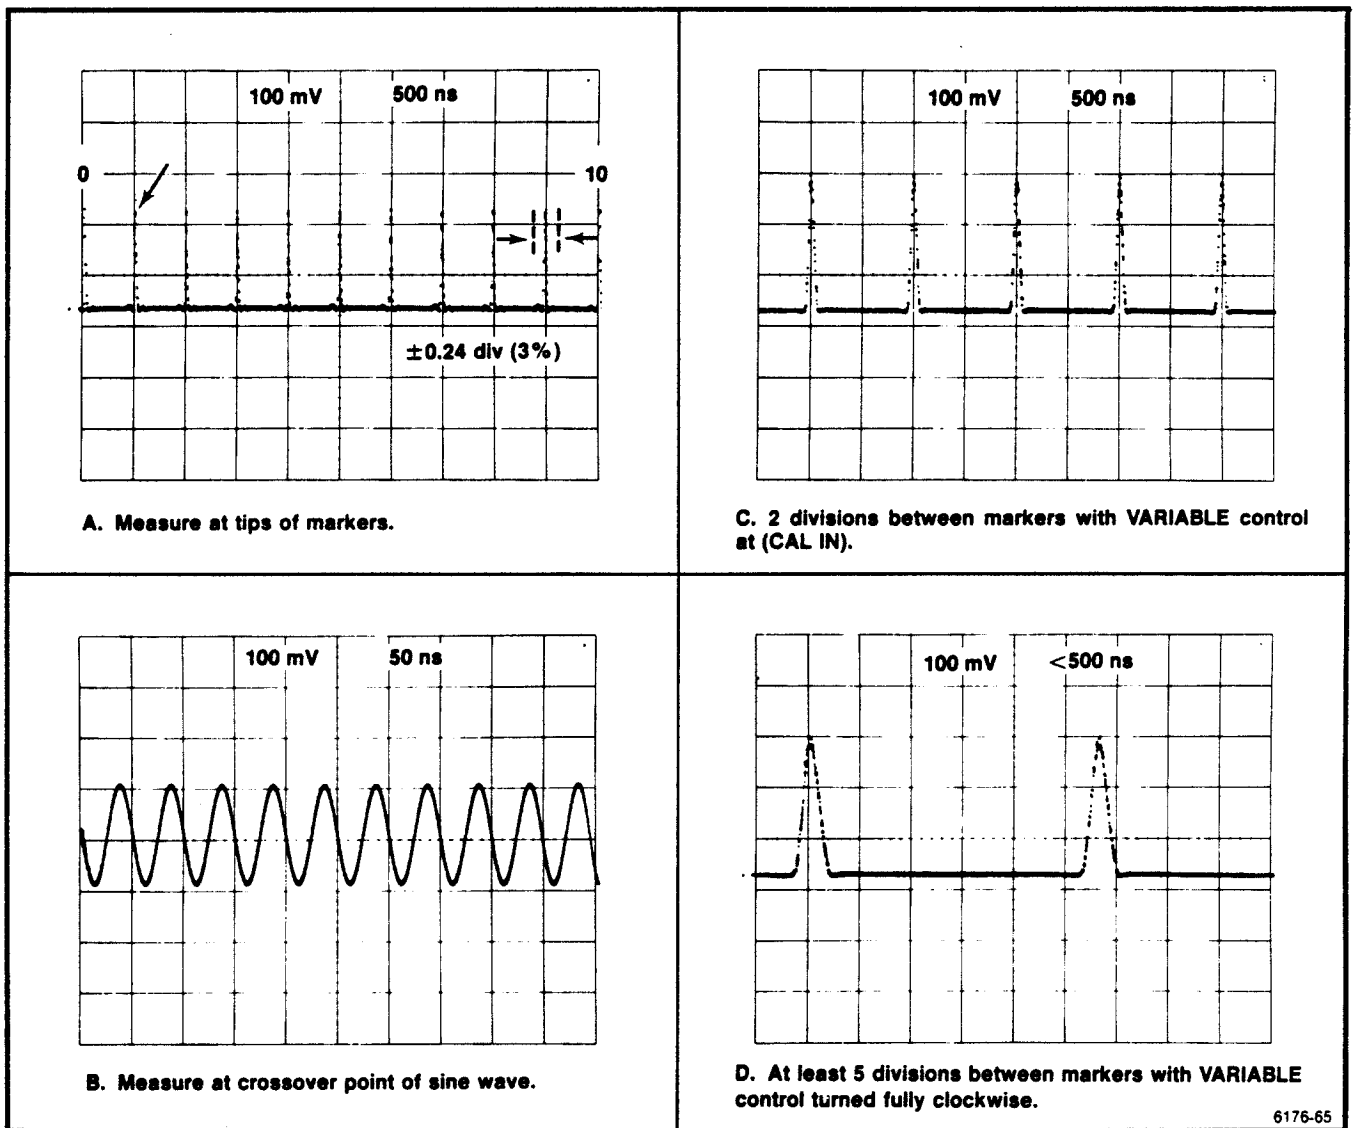

Figure 5-10. Typical displays for checking timing accuracy.
- CHECK**—the display for one time mark per division  $\pm$  3%. See Figure 5-10 for typical timing displays.